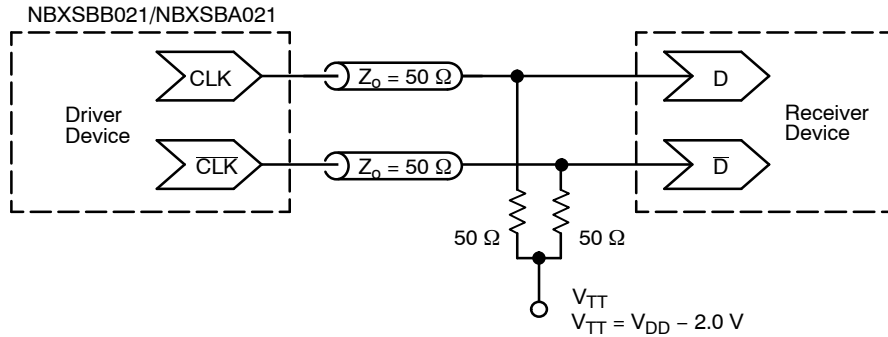

Figure 4. Typical Termination for Output Driver and Device Evaluation
2. Measurement taken with outputs terminated with 50 ohm to $V_{DD}-2\text{ V}$. See Figure 4.
3. Measurement taken with outputs terminated with 50 ohm to $V_{DD}-2 \text{ V}$. See Figure 4.